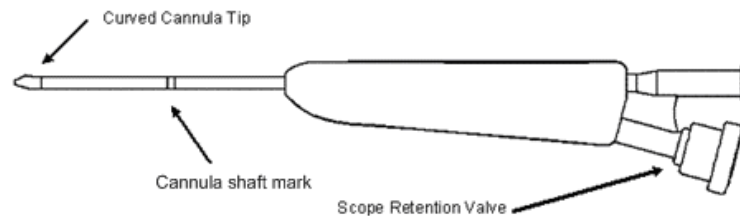

Figure 2 – Sinus Cannula
- b. Tighten the scope retention valve (see Figure 2) to secure the scope within the Cannula. Verify the Endoscope is flush or just outside (approximately 0.5 mm) of the Cannula.
- d. While holding the Cannula with the Endoscope Retention Valve positioned down (see Figure 2), rotate the Camera relative to the eyepiece to align the image as desired.